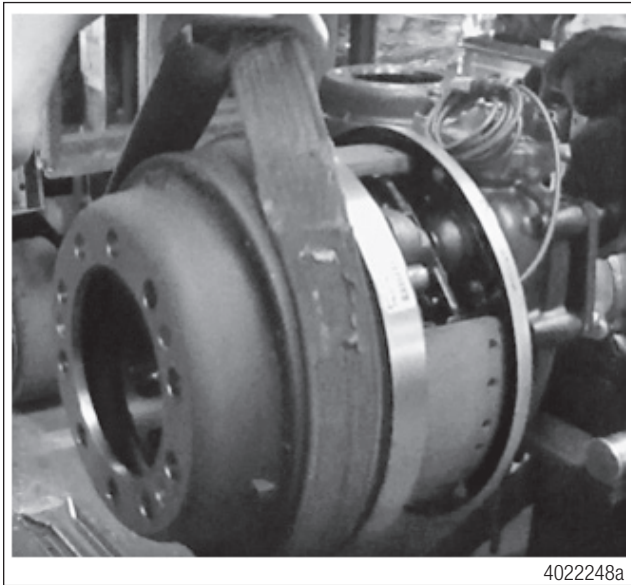

Figure 8
3. Remove the brake drums using a suitable lifting device. Figure 8.